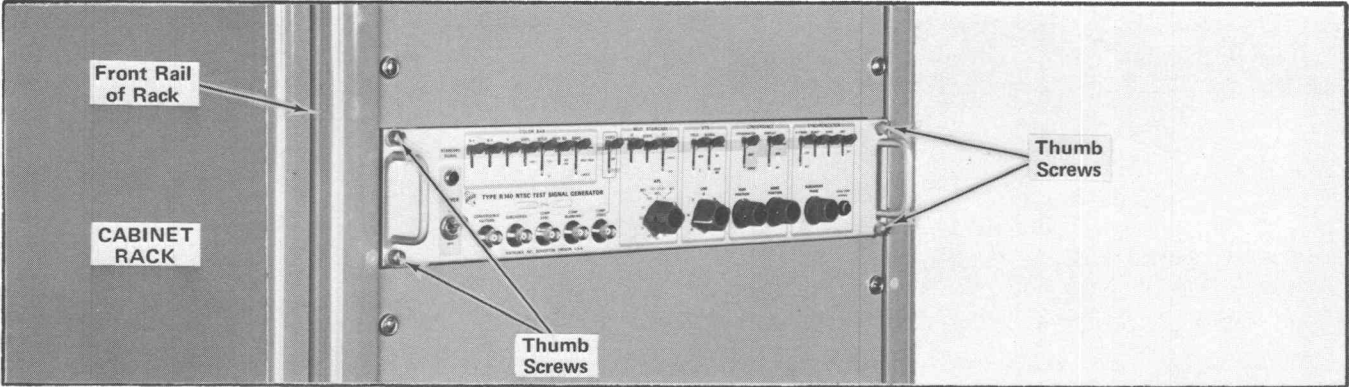
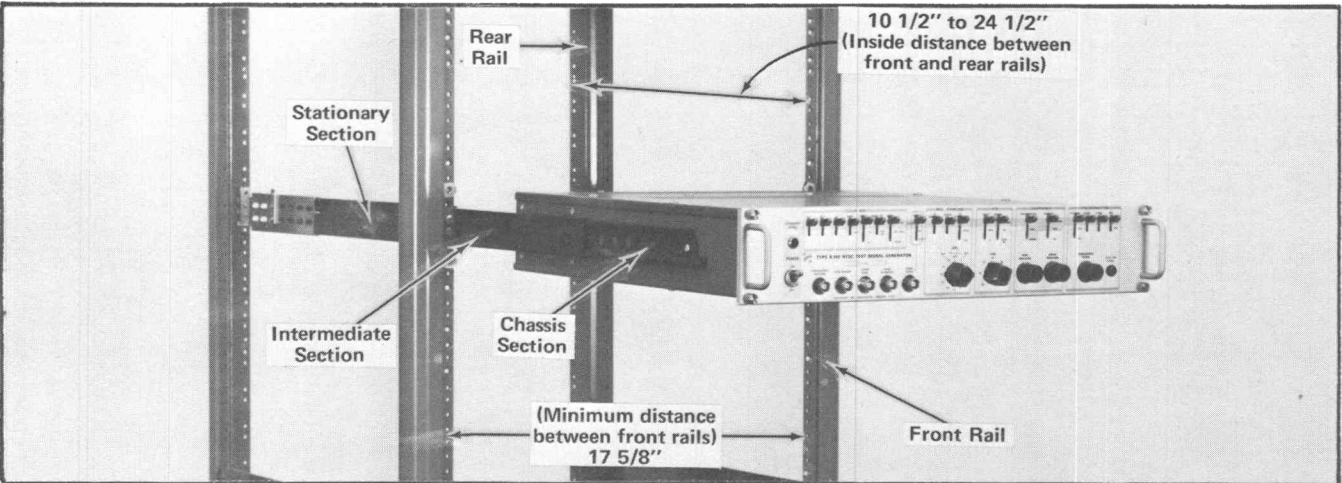
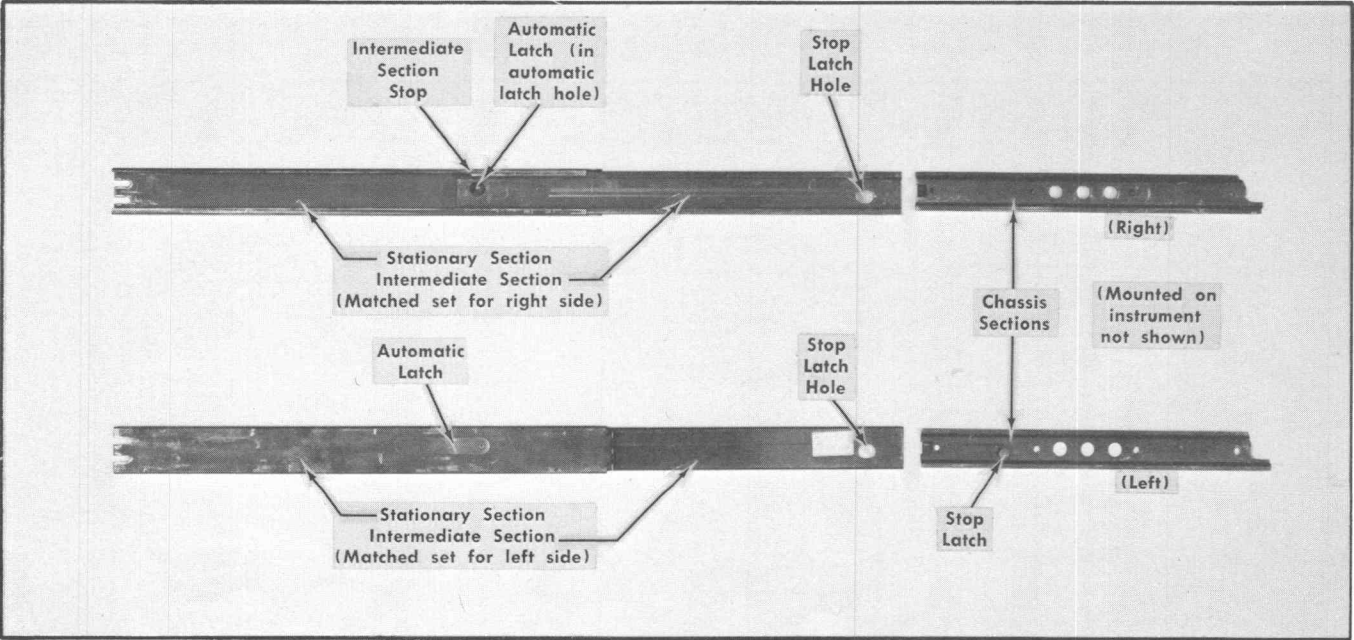

Fig. 5-1. The generator installed in a cabinet rack.
Fig. 5-2. The generator shown in the fully extended position. The cabinet rack sides have been removed from the rack to show mounting.
Fig. 5-3. Illustration showing the 1 3/4-inch wide slide-out track assemblies.
#### Mounting Methods (Figs. 5-1, 5-2, 5-5 and 5-6)
Fig. 5-1 shows the instrument installed in a cabinet type rack with 1 3/4-inch wide slide-out tracks for a non-tilt installation. The instrument is secured into the rack by means of four captive thumb screws. When the thumb screws on the front panel are loosened, the instrument can be pulled out of the rack like a drawer to its fully extended position (see Fig. 5-2). This position permits many routine maintenance functions to be performed without completely removing the instrument from the rack.
**Width**—A standard 19-inch rack may be used. The dimension or opening between the front rails must be at least 17 5/8 inches (see Fig. 5-2) for a cabinet rack in which the front lip of the stationary section is mounted behind an untapped front rail as shown in the right-hand illustration of Fig. 5-6. This dimension allows room on each side of the instrument for the slide-out tracks to operate so the instrument can move freely in and out of the rack.
**General Information**—The slide-out-tracks for the instrument consists of two assemblies, one for the left side of the instrument and one for the right side. Each assembly consists of three sections as illustrated in Fig. 5-3. The stationary section attaches to the front and rear rails of the rack with inside dimensions as indicated in Fig. 5-2; the chassis section attaches to the instrument and is installed at the factory; the intermediate section fits between the other two sections to allow the instrument to be fully extended out of the rack.
The stationary and intermediate sections for both sides of the rack are shipped as a matched set and should not be separated. The matched sets for both sides including hardware are marked 351-0195-00 on the package. To identify the assemblies, note that the automatic latch and intermediate section stop are located near the top of the matched sets when they are properly mated to the chassis sections as shown in Fig. 5-3.